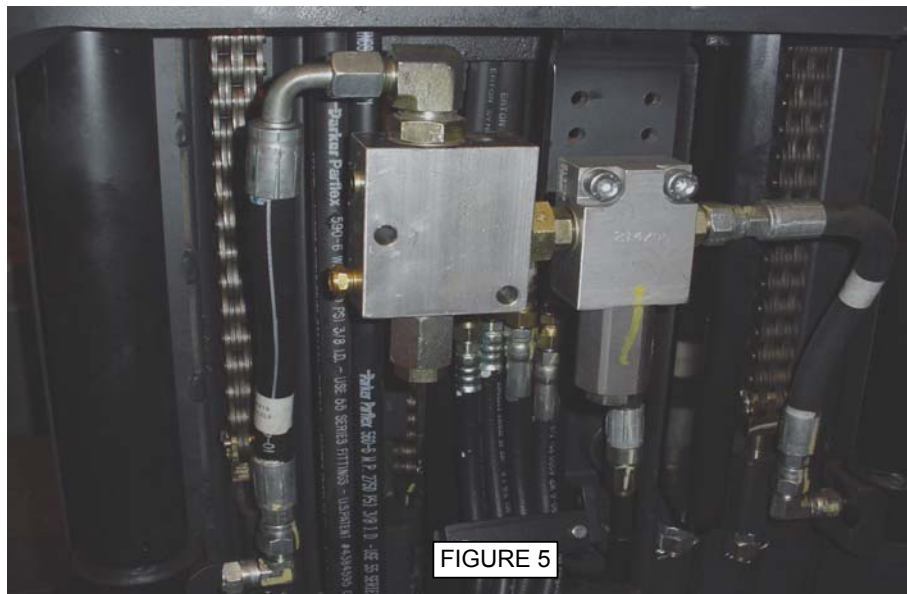

FIGURE 5
7. Install new LH main lift hose on to fittings as shown in figure 5.